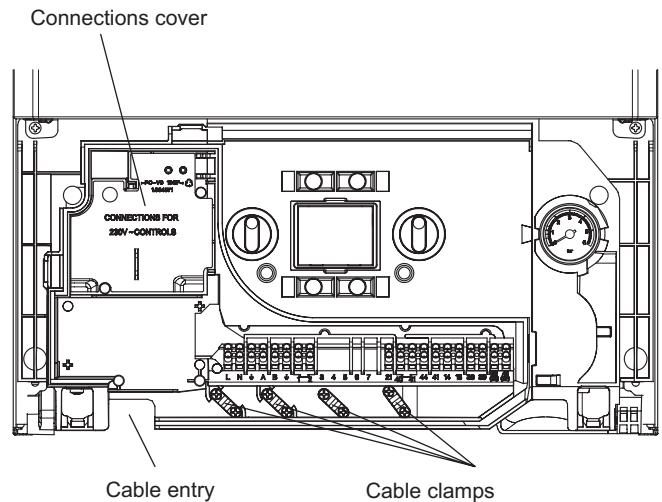

Fig. 4.15
Note: Do not remove the 230 V controls connection cover, see Fig. 4.15
1. Remove the screw securing the connections cover labelled 'connections for 230 V controls' to expose the receiver/clock connections. See Fig. 4.15.